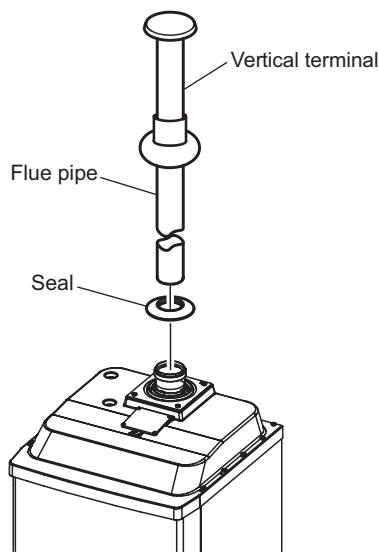

Fig. 15
**Vertical kit - see Figs. 15 and 16, and refer to Section 3.4.**
To assemble the kit to the boiler - Slide the flue pipe down through the roof seal and place the seal over the flue duct. Push the flue duct into the flue socket on top of the boiler up to the stop. Ensure the seal is pushed in position against the ceiling. The maximum vertical length (without bends) for flue pipe is 17 m (CD90S) or 14 m (CD115S) (see Figs. 15 and 16).